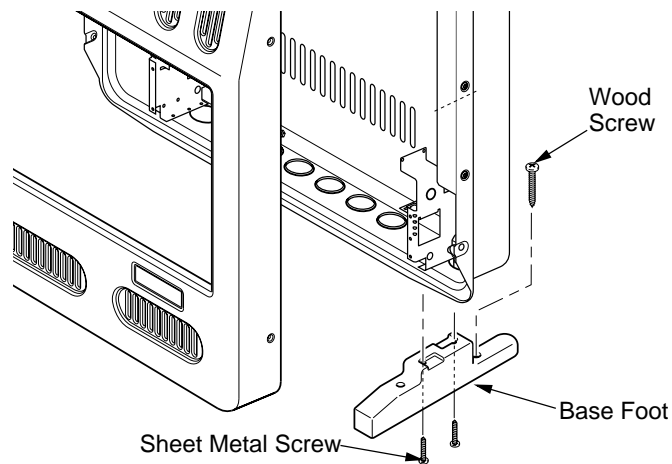

Figure 20 - Installing Base Feet (Heater may vary from illustration)
2. Align holes in base foot with mounting holes on bottom of cabinet (see Figure 20).
4. Reposition heater with base feet over holes. Secure base to floor with wood screws. See Figure 20.